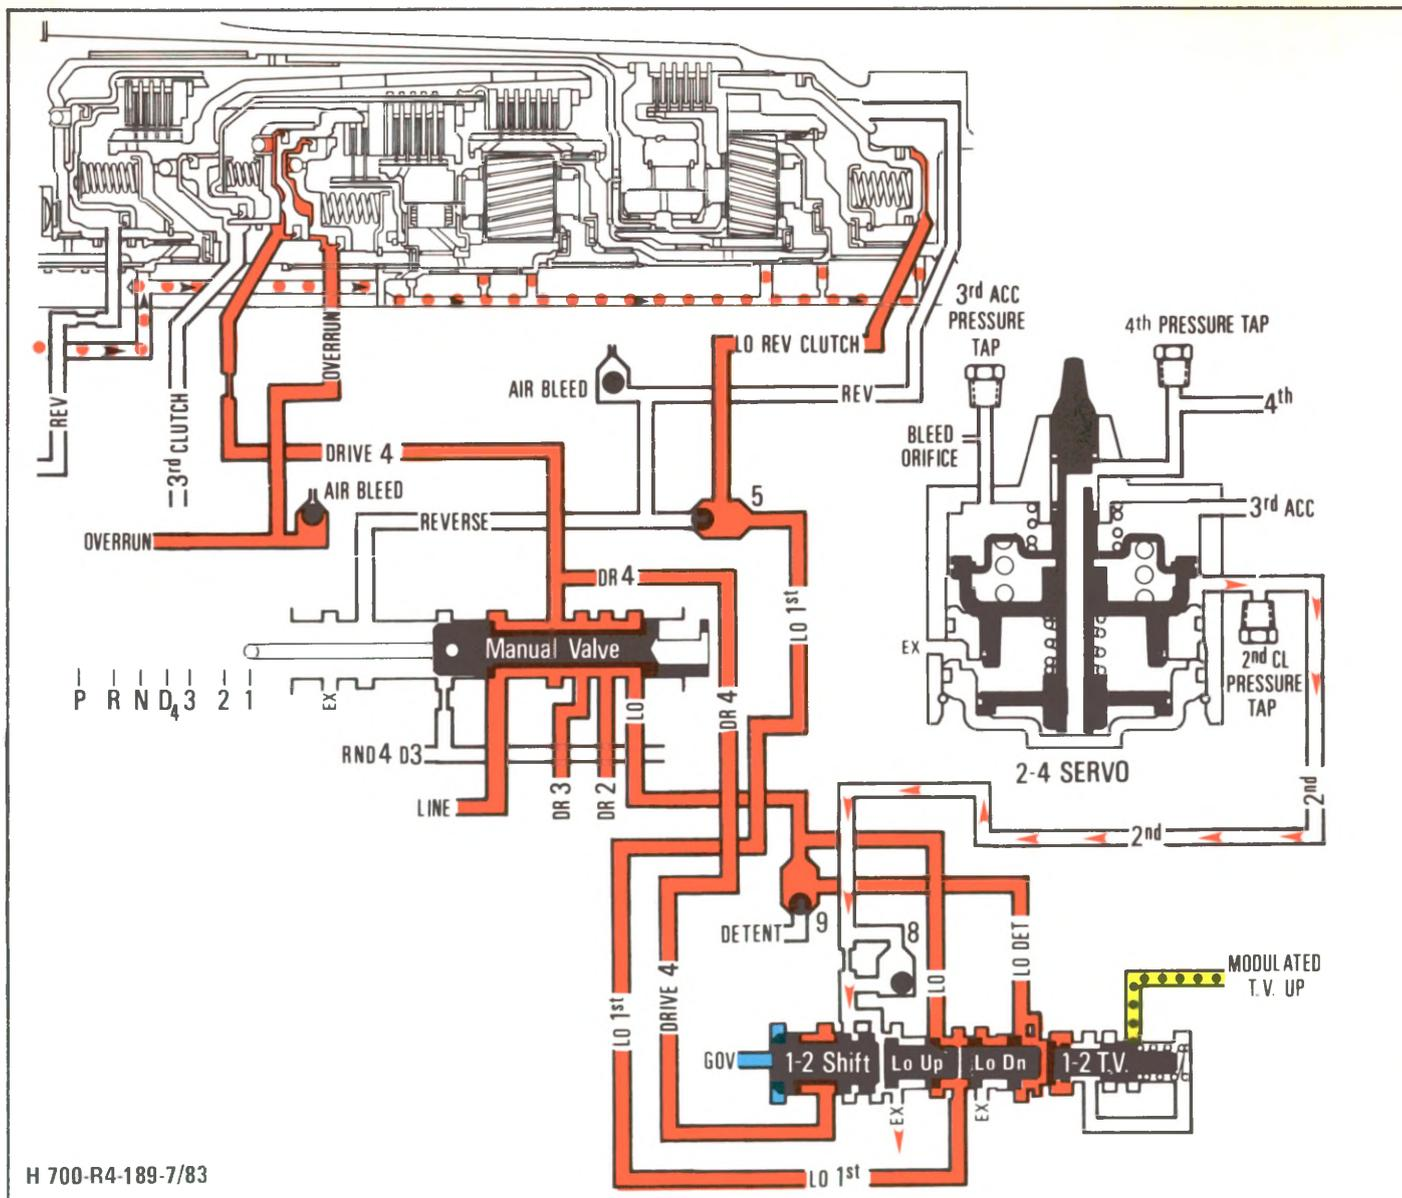

Figure 69 - Manual Lo, Valves Shown in First Gear Position
When the selector lever is moved to the lo gear position, the manual valve is moved to allow line pressure into the lo passage (Fig. 69, pg. 63). Lo oil will move the lo/detent check ball (9) over to block the detent passage. Lo oil will then flow into the 1-2 shift valve where at speeds below 30 mph (48 km/h), it will close the 1-2 shift valve allowing lo oil to enter the lo-1st passage. The lo-1st passage leads to the lo/reverse check ball (5), which seals off the reverse passage. Lo oil will then enter the inner area of the lo and reverse piston and apply it.